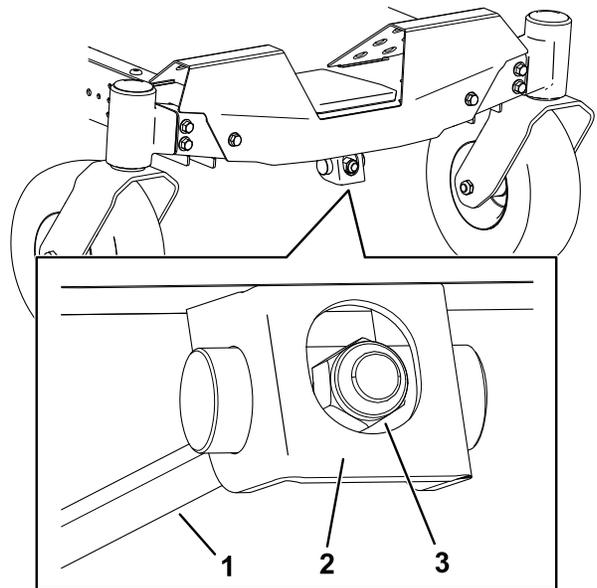

Figure 62
- Rotate the adjustment nut in the front of the mower (Figure 62).